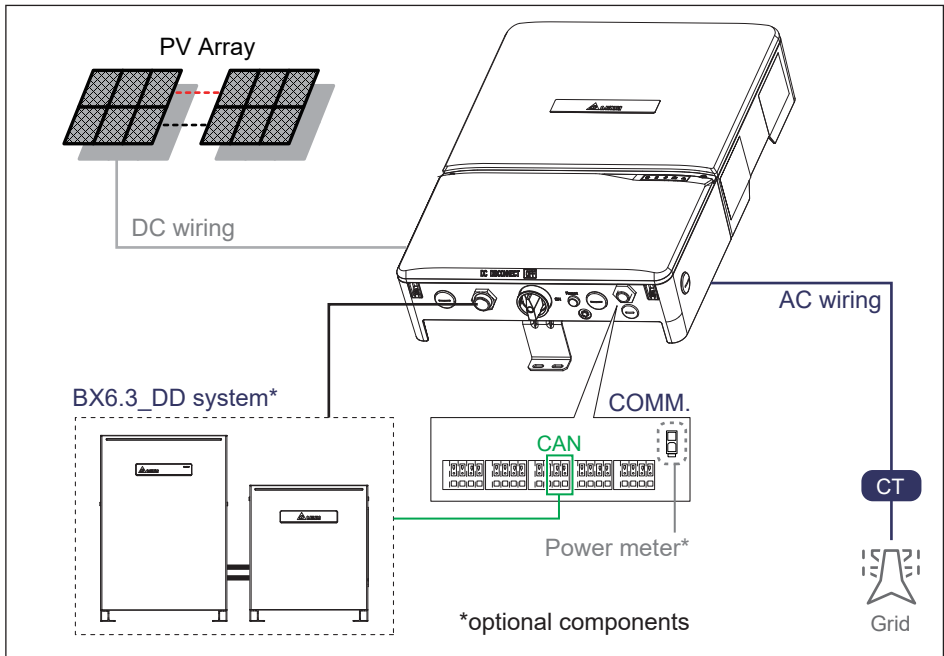

Figure 5-1 : Cable connections
5. Please refer to **Figure 5-1** for connections. Inverter can accept DC inputs in parallel.